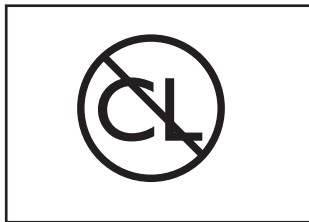

Fig. 3c
- Change the Timer Setting from 003 (seconds) to any duration up to 20 seconds (020).
- Before you push the On/Off button, push the program button twice, the Chlorine symbol appears (Fig. 3c).